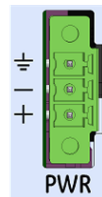

Figure 9: CPE100 Power Connector & Pinout
- The 3-Way pluggable terminal block which is a mating connector for the power input terminal block header located on the front panel of CPE100 (Figure 9) comes along with the package. This mating connector accepts wire sizes 22 to 16 AWG. Screw torque: 2 in-lb. Temperature rating for copper wire: 80°C. Wiring should be stripped prior to connecting to the mating connector and cannot exceed 30 m in length.
- Very small slotted screwdriver (2 mm jeweler's size) for securing wires to the connector shown in Figure 9.